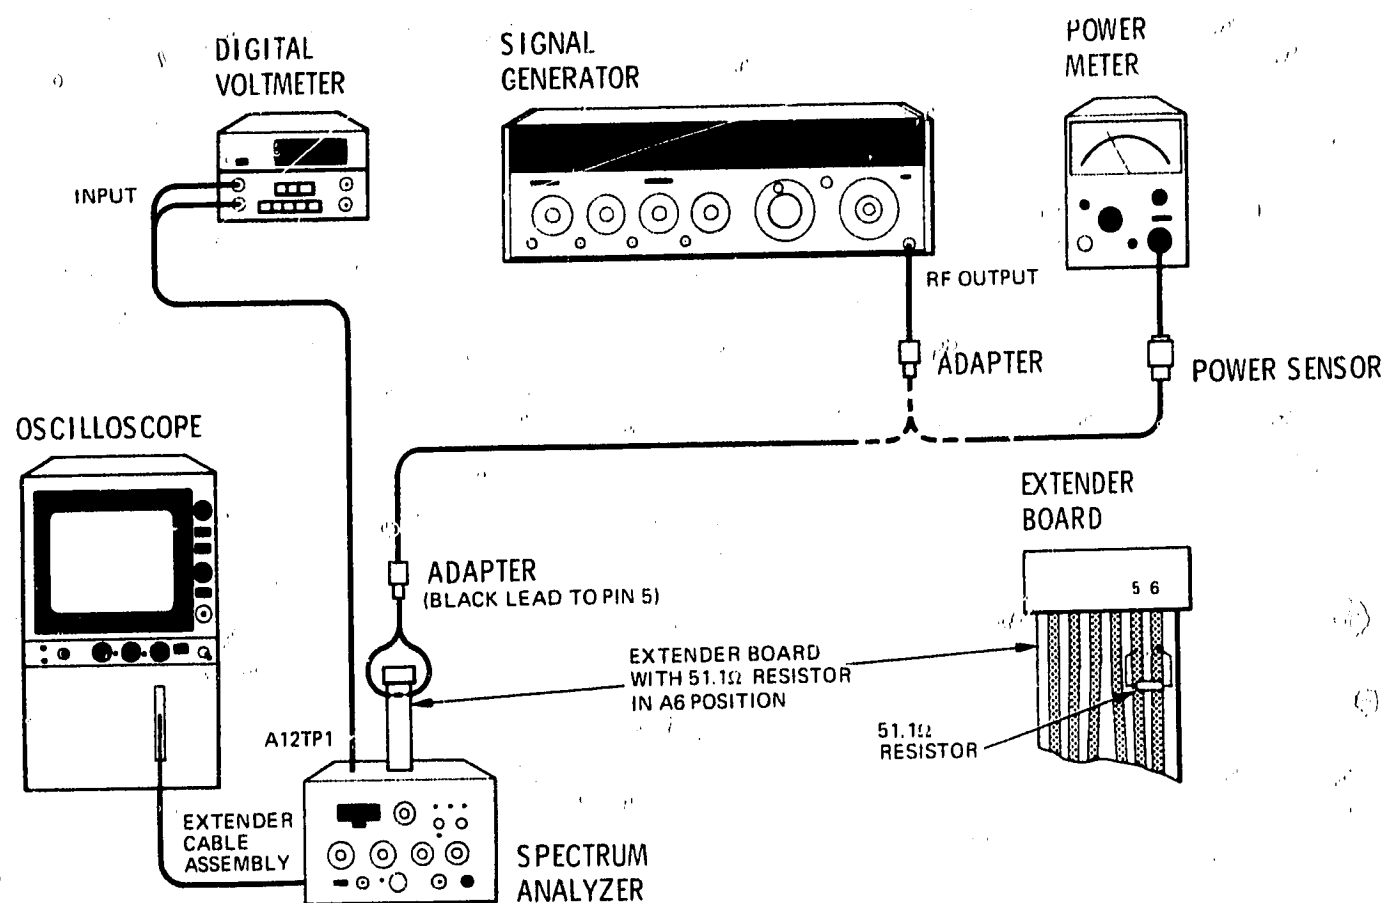

Figure 5-7. RF Gain Adjustment Test Setup
2. Connect equipment as shown in Figure 5-7.